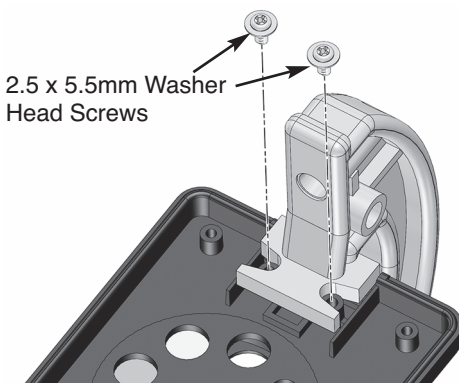

Figure 10
- ❑ Using two 2.5 x 5.5mm washer head screws, attach the stage assembly onto the arm (see Figure 10).